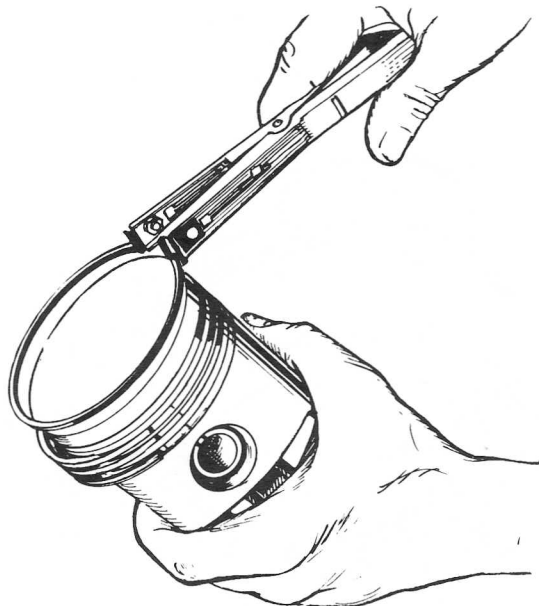

FIGURE 22. REMOVING PISTON RINGS
5. Remove the piston rings from the piston with a piston ring spreader as shown in Figure 22. Remove the piston pin retainer and push the piston pin out.